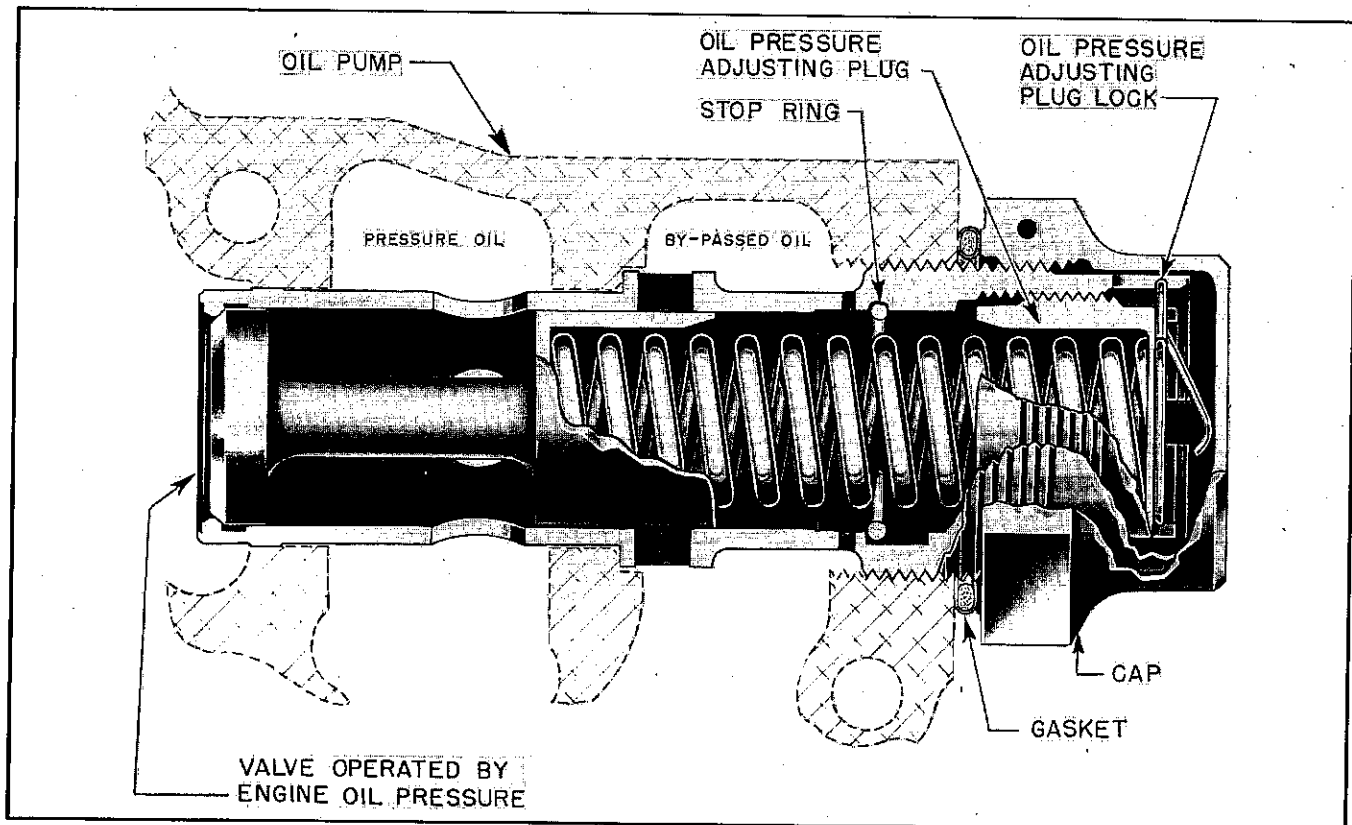

Figure 58—Sectional View of Oil Pressure Relief Valve.
a. Remove the 1½" hex. cap from the pressure relief valve body, using Service Wrench No. 2244. Refer to Figure 58. Remove the locking spring holding the oil pressure relief valve adjusting screw. The adjusting screw is next removed with the small end of Wrench No. 2244. The spring can then be removed.